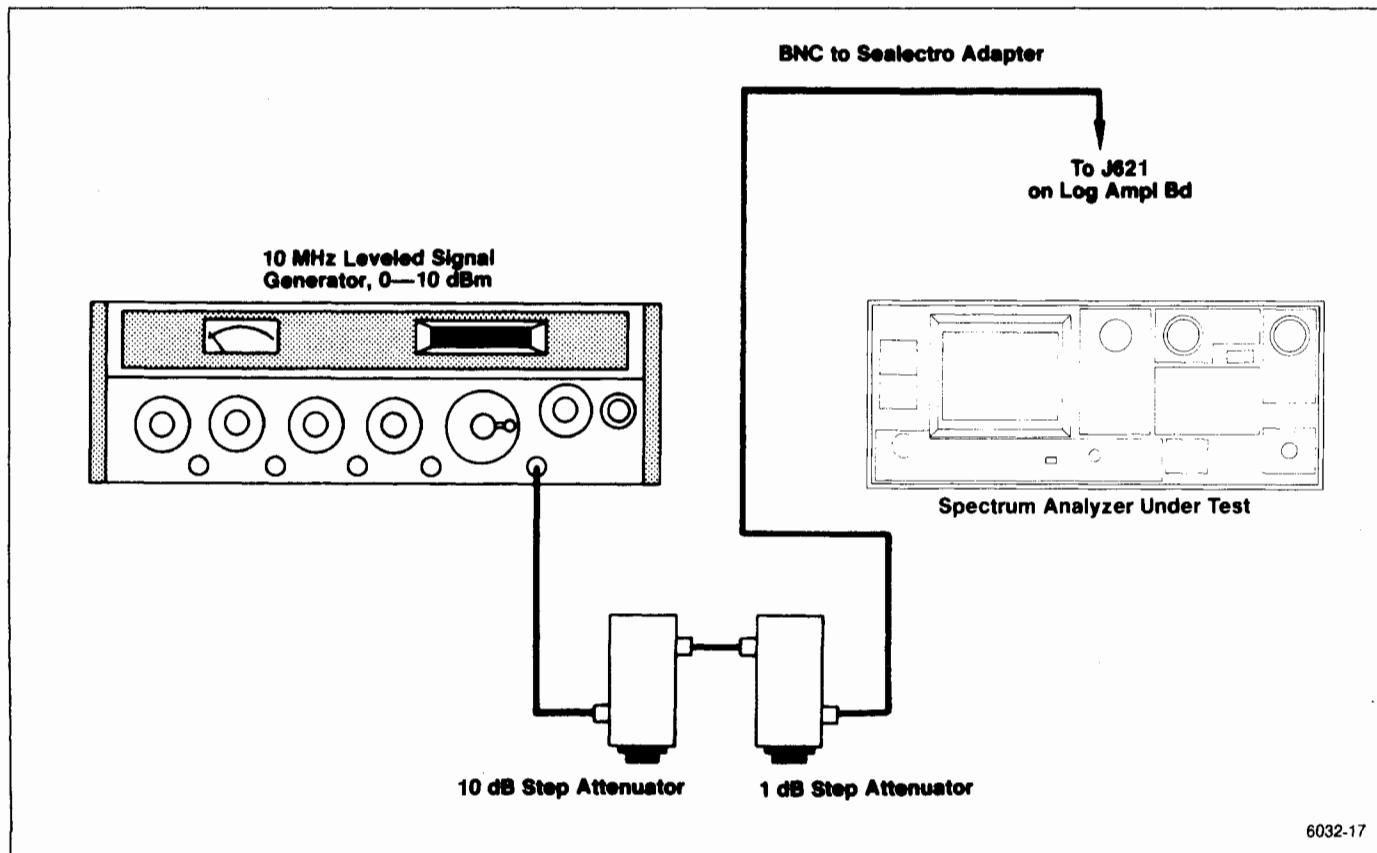
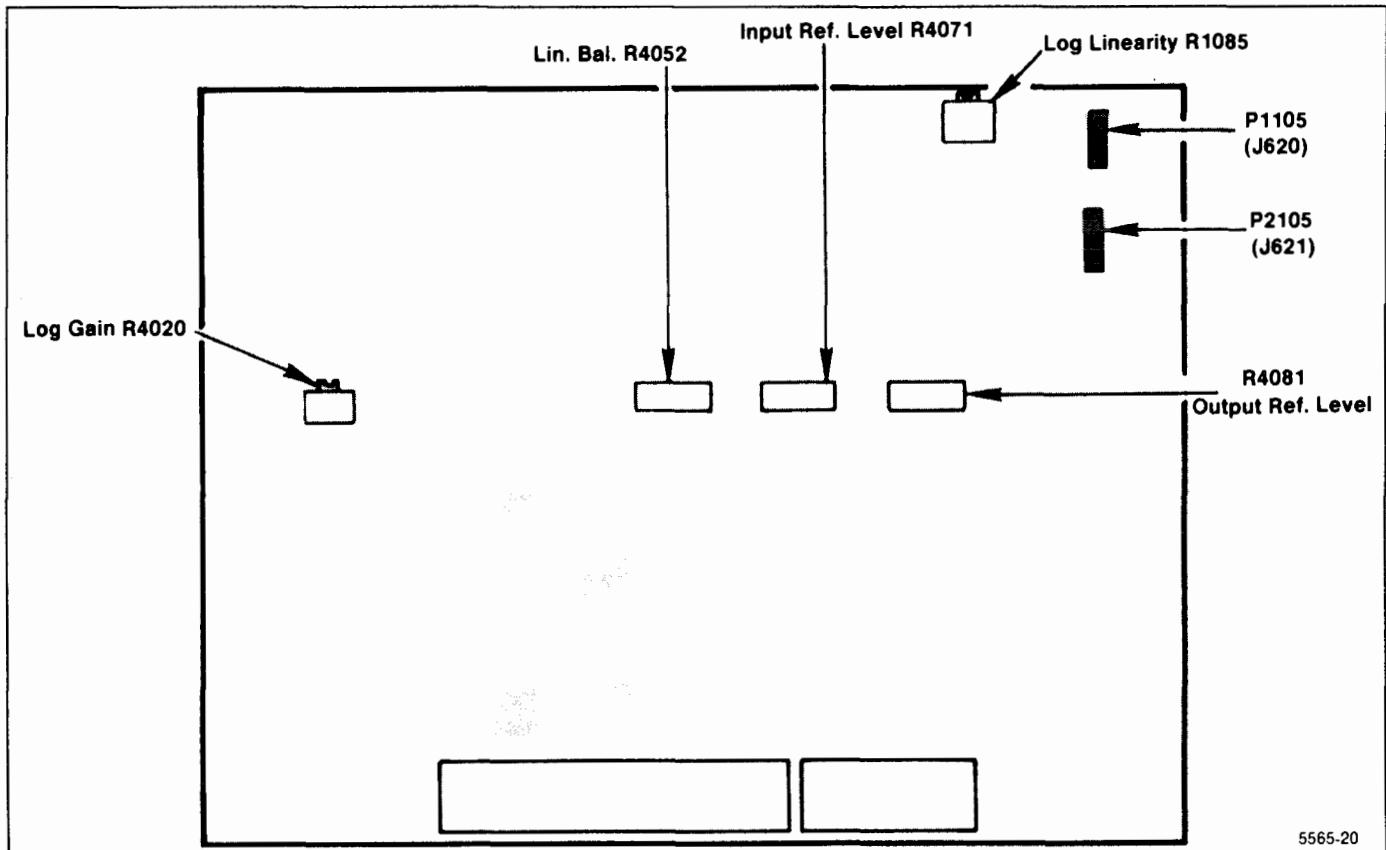

Figure 5-14. Test equipment setup for adjusting the Log Amplifier.
Figure 5-15. Log and Video Amplifier test point and adjustment locations.
- c. Connect the test equipment as shown in Figure 5-14. (P621 must be removed in order to access J621 on the Log Amplifier board. See Figure 5-15.) Set the Spectrum Analyzer controls as follows:
- i. Adjust the Log Gain, R4020 (Figure 5-15) so each 10 dB increment of attenuation results in one major division of change on the display.
- k. Adjust Input Ref Level, R4071 (Figure 5-15) for minimum amplitude change between the 10 dB/DIV and 2 dB/DIV displays while alternately switching the VERTICAL DISPLAY between 10 dB/DIV and 2 dB/DIV.
- n. Adjust Output Ref Level, R4081 (Figure 5-15) for a full screen (eight divisions) display.
- o. Switch to the 10 dB/DIV mode and set the step attenuators for 40 dB of attenuation. Adjust Log Linearity, R1085 (Figure 5-15) so the display is mid-screen.
- u. Press LIN and adjust Lin Mode Balance, R4052 (Figure 5-15) for a full screen display. Amplitude of LIN, 2 dB/DIV, and 10 dB/DIV display should now be the same.